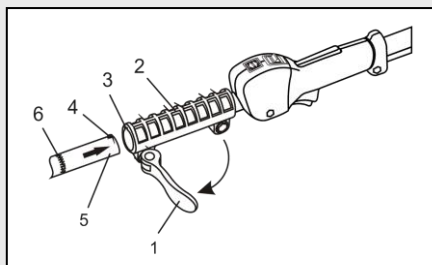

Fig. 1
1. Pull the locking lever (1) outward from the locking collar (2). Align the groove (3) in the locking collar with the matching key (4) on the end of the trimmer attachment shaft (5) (Fig. 1).
2. Insert the trimmer attachment shaft into the locking collar until the installation mark (6) meets the locking collar.